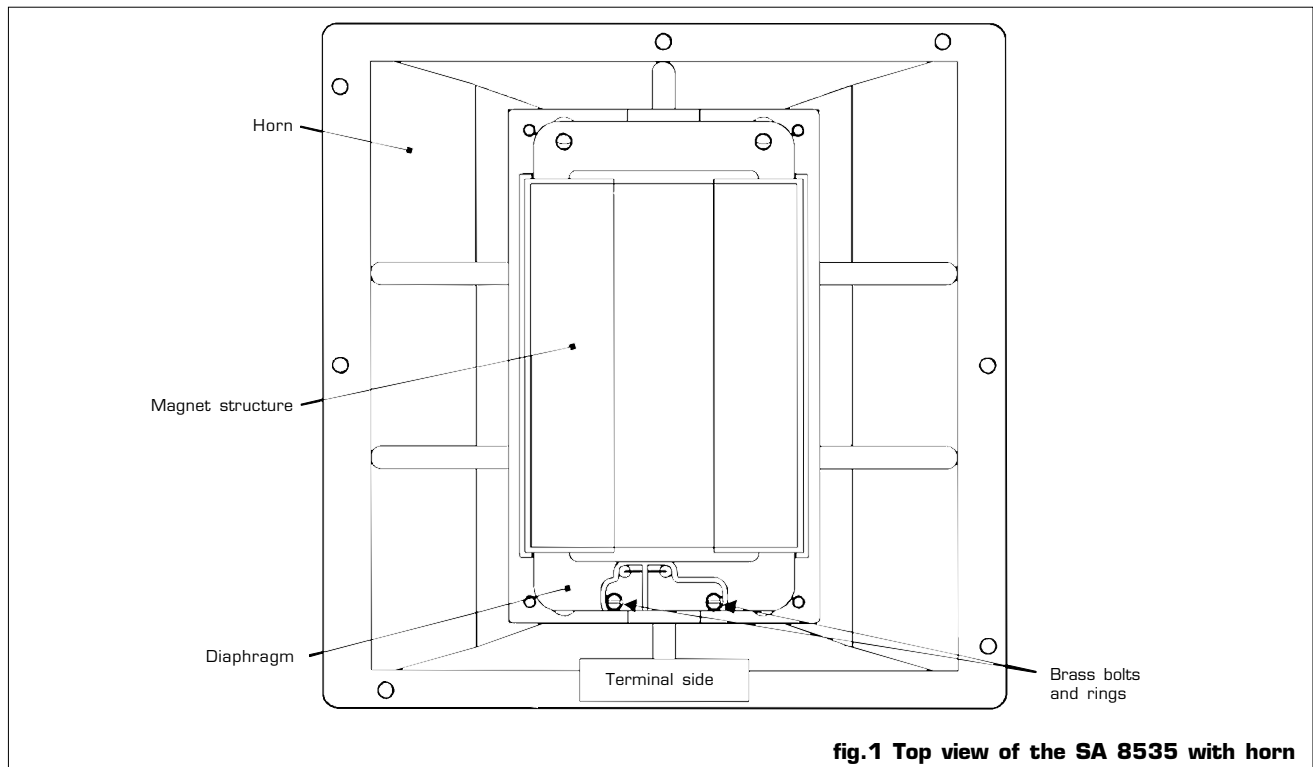

fig.1 Top view of the SA 8535 with horn
3. Remove the two brass bolts and rings that keep the diaphragm in place (see figure 1).